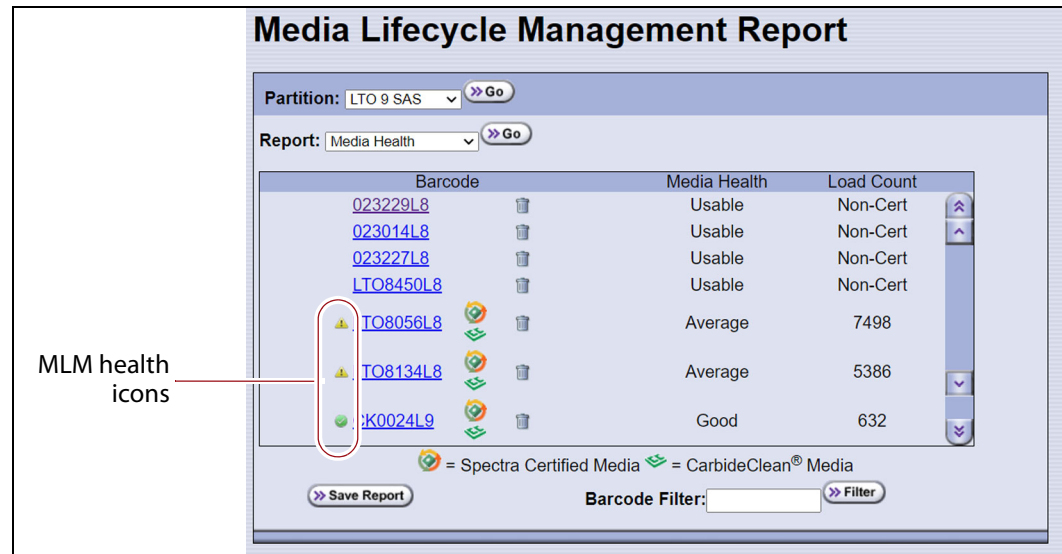

Figure 145 Use the health icons on the Media Lifecycle Management Report screen to quickly determine media health.
8. Click **Previous** to return to the main Media Lifecycle Management Report screen (Figure 145 on page 282).
Report Selected Data	Only the fields displayed in the report that you selected on the Media Lifecycle Management Report screen (Figure 145 on page 282). Note: The headings in the saved report reflect the fields displayed in the report you selected in the Media Lifecycle Management Report screen.